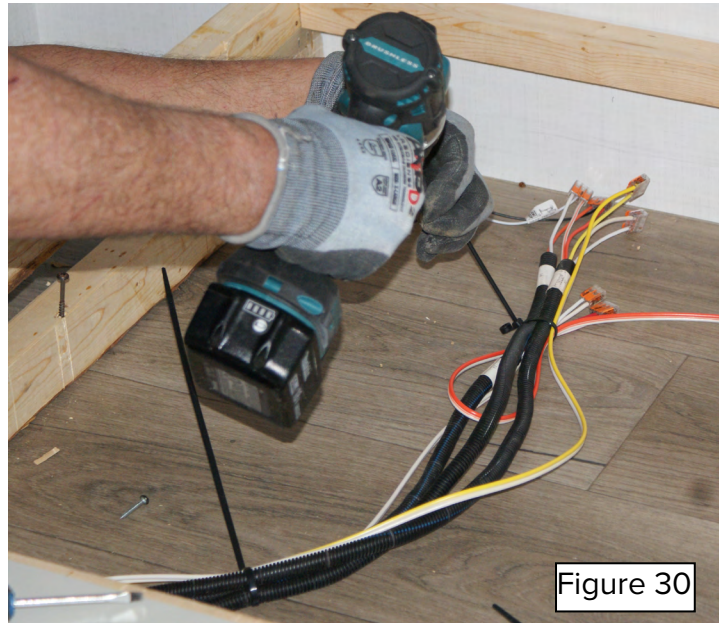

Figure 30
33. Secure the wiring to the slide out and bed structure using screw down zip ties to prevent the wiring from moving and potentially chaffing, pinching or cutting (Figure 30).